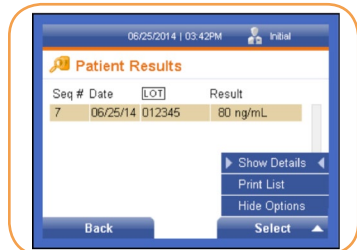

FIGURE 53
1. From the *Patient Results* screen, press the right soft key to display the Option menu (Figure 53).